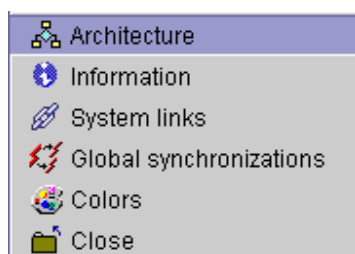

Figure 125 : System contextual menu
- Click on the system with the mouse right button to gain access to the contextual menu (Figure 125):